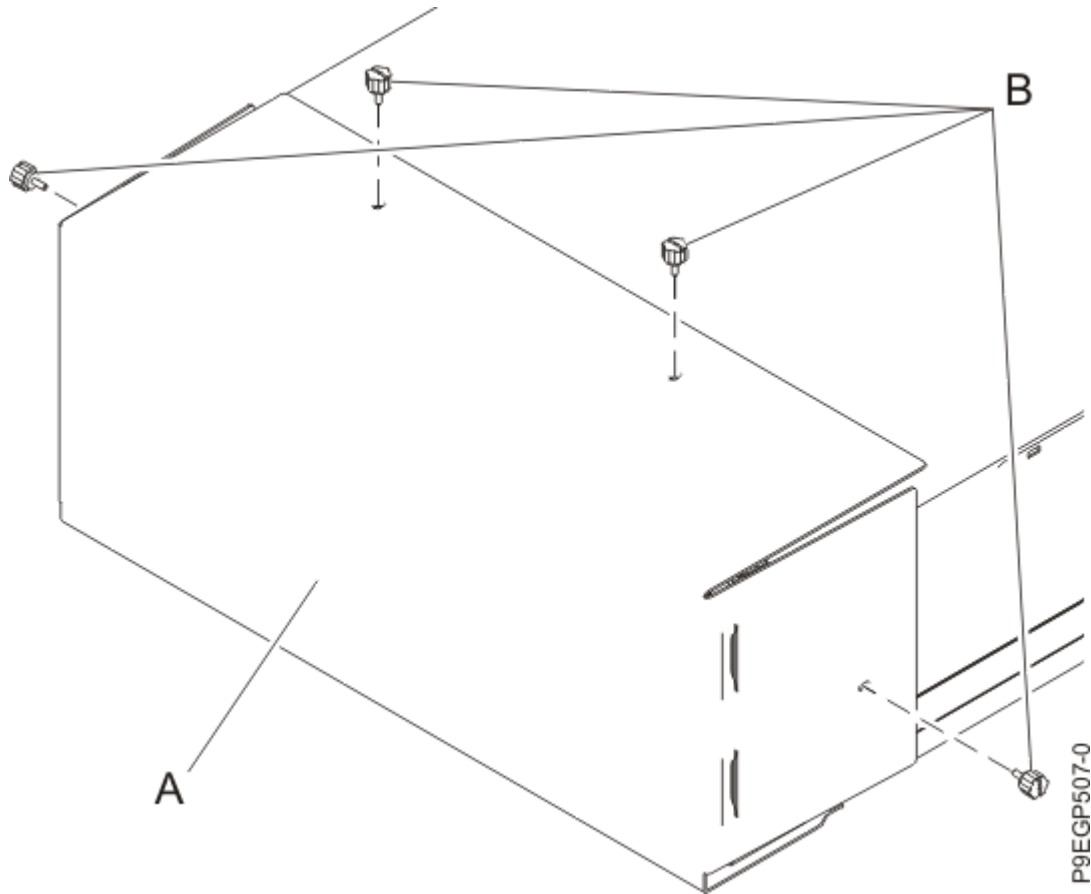

Figure 7: Removing the shipping cover
2. Remove the four thumb screws **(B)** that are used to secure the shipping cover **(A)** to the rear of the drawer, as shown in Figure 7 on page 11. Remove the shipping cover.